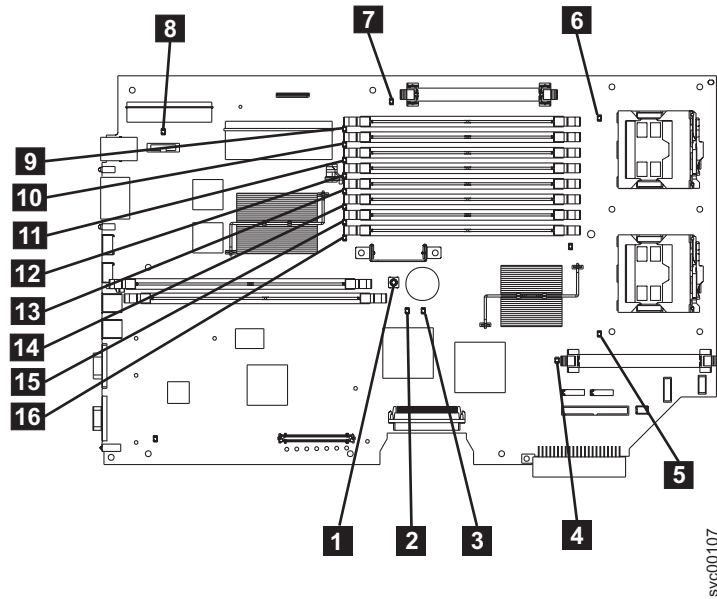

Figure 61. The SAN Volume Controller 2145-8F4 or the SAN Volume Controller 2145-8F2 system board
- YES** Refer to Table 22 on page 327 and perform the action specified for the specific light path diagnostic LEDs, then go to step 3 on page 329. Some actions will require that you observe the state of LEDs on the system board or on the fan backplanes. The location of the system board LEDs are shown in Figure 61 on page 327. The fan LEDs are located adjacent to each FAN. To view the LEDs you will need to do the following:
- d. Press the light path diagnostic button **1**. See Figure 61 on page 327.